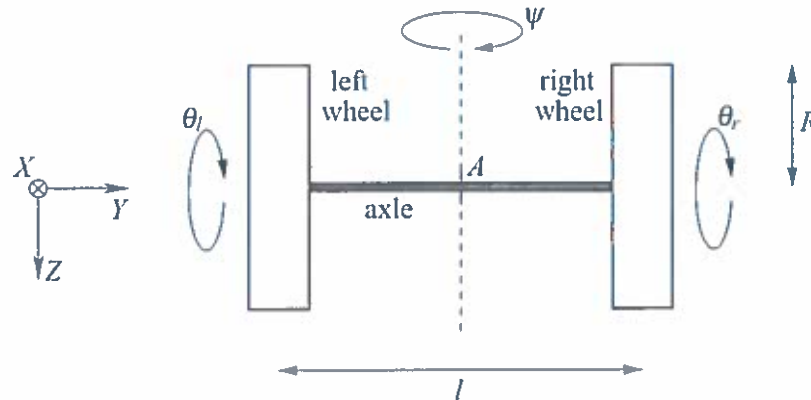

Figure 3.1 Two wheels on an axle.
3. Two identical uniform wheels of mass m and radius R each are held at their centre of mass respectively at the left and right ends of a uniform axle of length l , as shown in Figure 3.1. The axle has only one rotational degree of freedom about a vertical axis through its middle point, A , represented by an angle ψ . The axle moment of inertia about its axis of rotation is I_{axe} . The left and right wheels spin relative to the axle by angles θ_l and θ_r respectively. Each of the wheels is axisymmetric with spin moment of inertia I_{yy} and radial moment of inertia, passing through the wheel centre of mass, I_{xx} .
Three body-fixed Cartesian coordinate systems, fixed in the left wheel, the axle and the right wheel respectively, are used to analyse the motion of the system. These coordinate systems have their origin at the left wheel centre of mass, point A , and the right wheel centre of mass respectively, and their unit vectors are initially respectively aligned with the earth-fixed axes X , Y and Z , in which X is into the page, as shown in Figure 3.1.